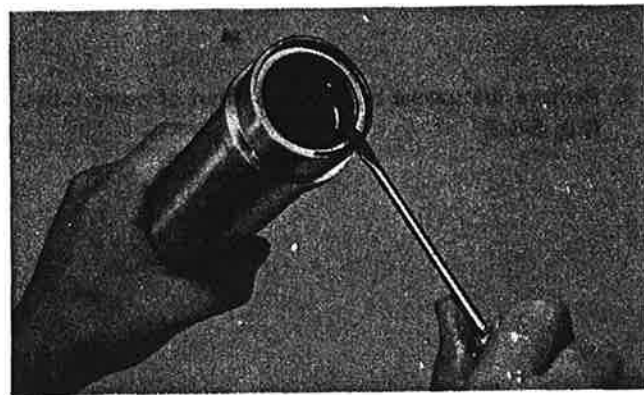

Fig. 5-6-6
5. Remove clip from bottom of inner tube and pull out damper assembly. Inspect and replace if damaged. (Fig. 5-6-6)